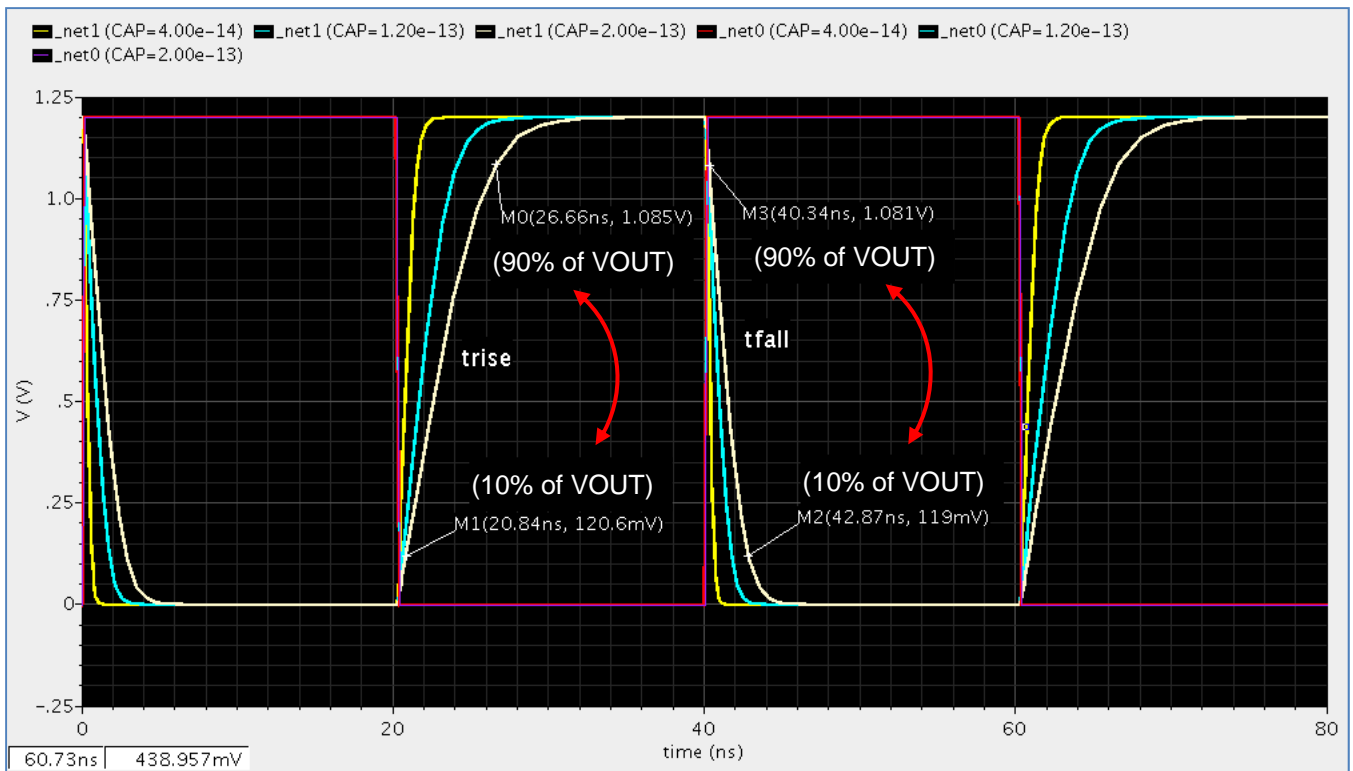

Figure Lab3-4 : t_{rise} & t_{fall} - $Wp = 120n$, $Cap = 0.04p$ to $0.2p$
- (d) **Print the waveforms**, as shown in Figure Lab3-4, with all markers attached.